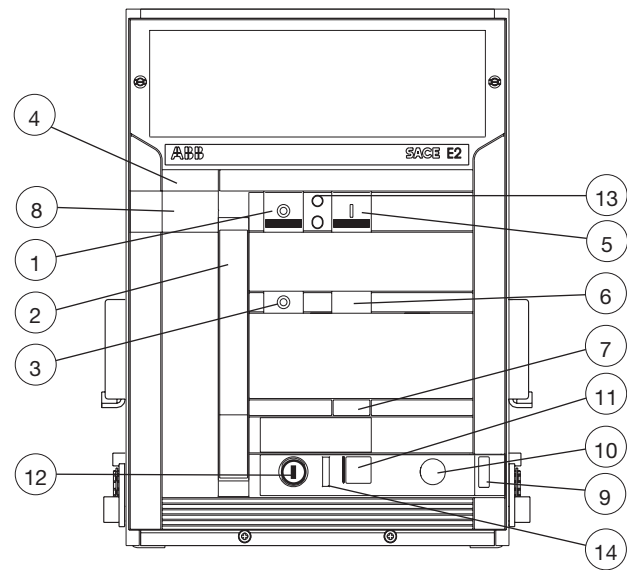

Fig. 26
- **DISCONNECTED:** the moving part is connected in the fixed part **WITHOUT** any connection between the power terminals and **WITHOUT** coupling the sliding contacts for the auxiliary circuits: all circuit-breaker electrical operations are prevented in this position. On the front, the indicator (9, Fig. 26) indicates **DISCONNECTED**; the switchboard compartment door can be closed.
- **TEST ISOLATED:** the moving part is racked into the fixed part **WITHOUT** connection between the power terminals, but **WITH** the sliding contacts coupled for the auxiliary circuits. In this position, the circuit-breaker can be operated for the no-load tests. The indicator (9, Fig. 26) indicates **TEST ISOLATED**.